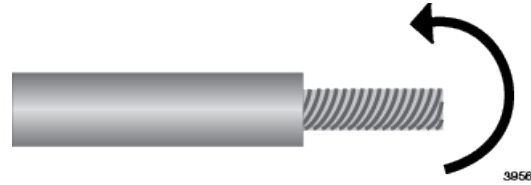

Figure 46. Wrapping the Wire Strands
2. Tightly wrap the wire strands with your finger tips. Refer to Figure 46 on page 102. This can prevent loose strands from touching other wires and causing an electrical short.
2. Tightly wrap the wire strands with your finger tips. Refer to Figure 46 on page 102. This step can prevent loose strands from touching other wires and causing an electrical short.